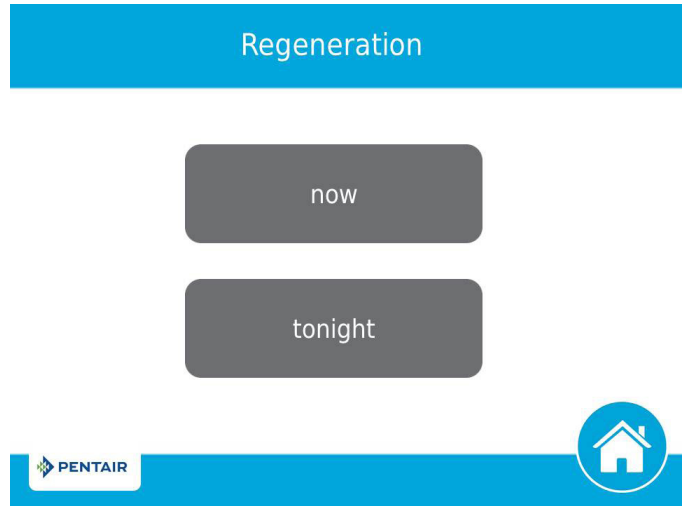

Figure 9 Regeneration Screen
- Start a regeneration by pressing the **Regeneration** button . The Regeneration screen appears (Figure 9).